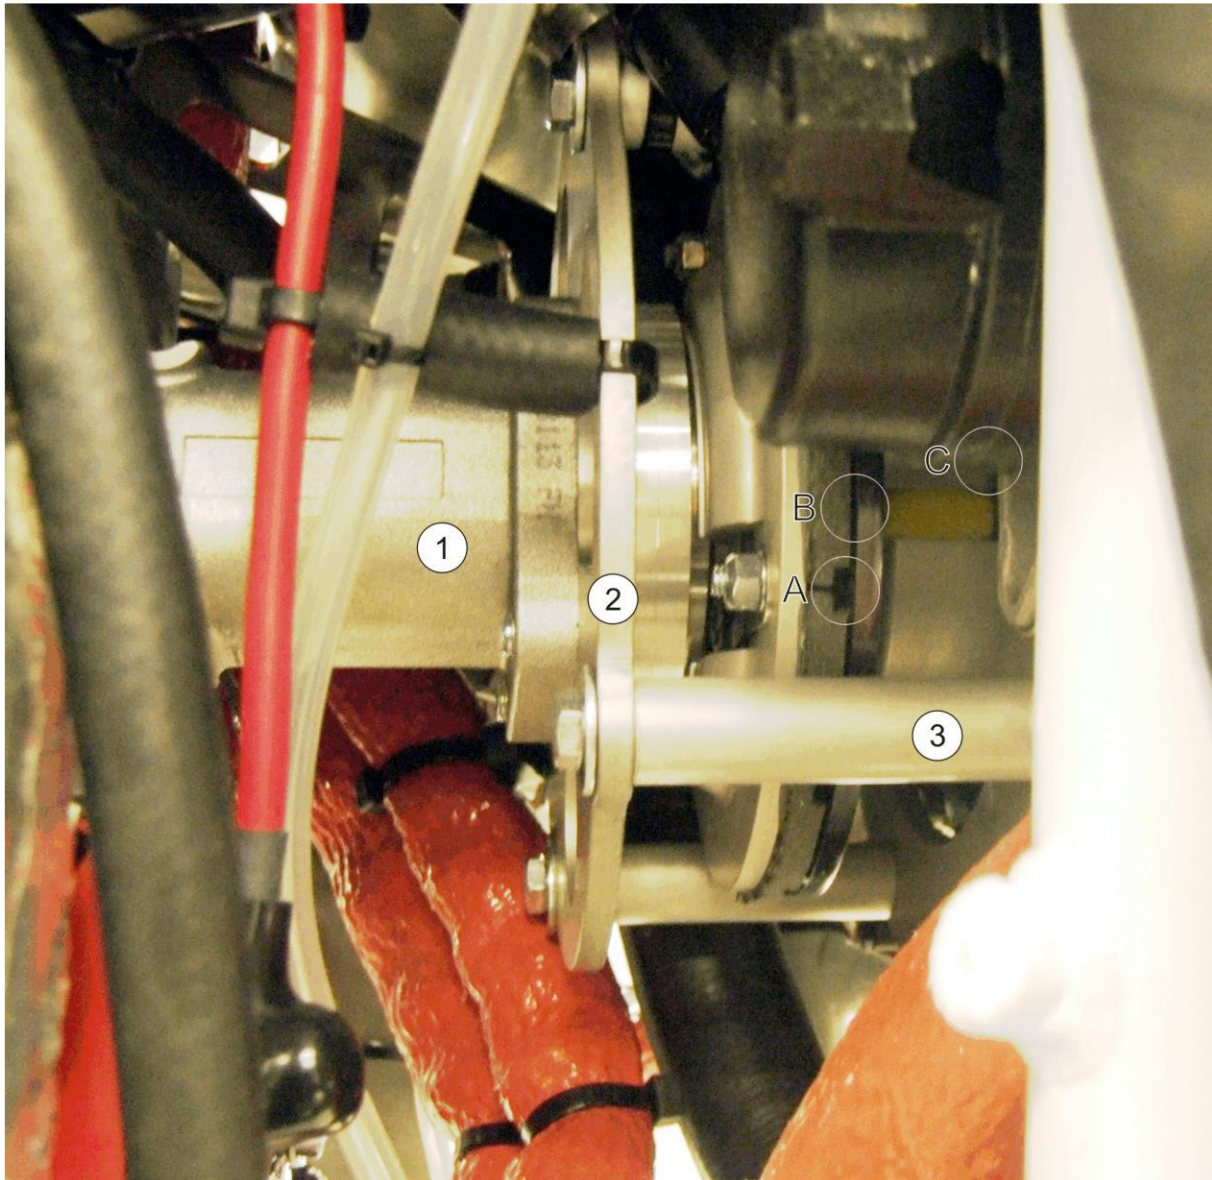

Fig. 1 - Pre-rotator clutch with attach ring
- 1 Check wear state of clutch lining. Wear mark (groove in the lining) must be recognizable. See Fig. 1, dimension A. Replace clutch if necessary.
- 2 Measure clearance between clutch lining and clutch plate. See Fig. 1, dimension B. Clearance must be between 1.0 - 1.5 mm. In case clearance is less than 1 mm or more than 1.5 mm contact AutoGyro customer support.
- 3 Measure clearance between inner (engine side) drive star disc and outer (clutch side) drive star claws. See Fig. 1, dimension C. Clearance must be between 0.5 - 1.0 mm. In case clearance is less than 0.5 mm or more than 1.0 mm contact AutoGyro customer support.